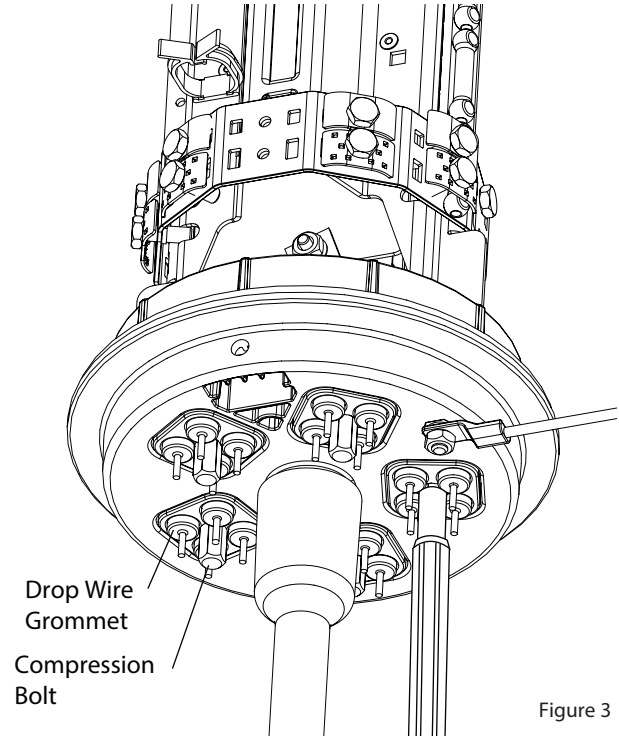

Figure 3
1. Using a 216 tool, loosen the compression bolt on the drop wire grommet until the bolt turns freely. (Figure 3)